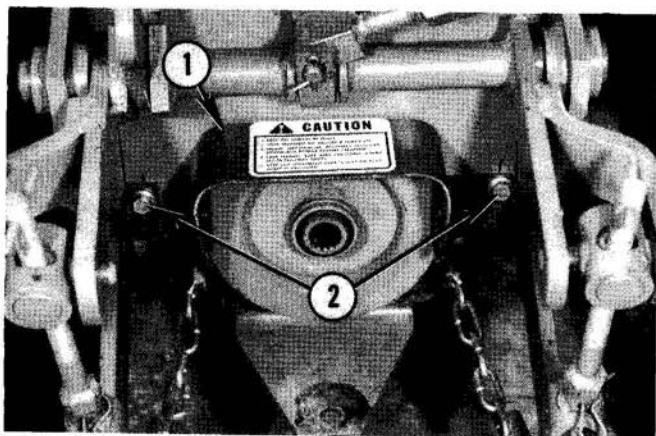

Fig. 2 — Tractor PTO Shield Installation
2. Install PTO shield as shown in Fig. 2, using two new bolts provided with PTO shield kit.